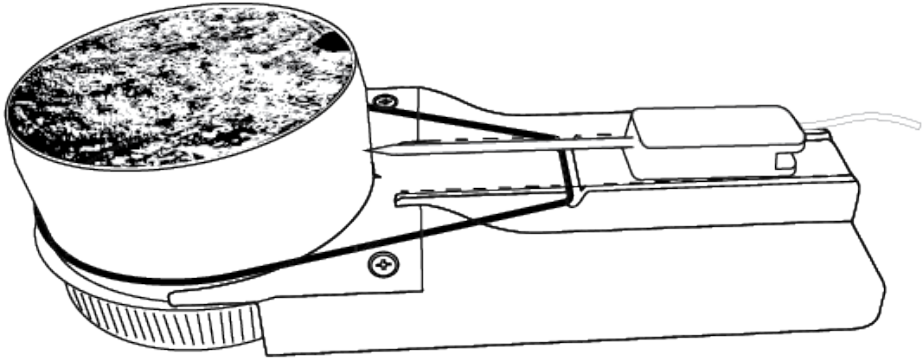

Figure 10 Sensor on installation tool
8. Place a retaining ring around the sample ring and into the notch of the installation tool (Figure 10).
9. Place the sensor on the installation tool guide rail (Figure 10).